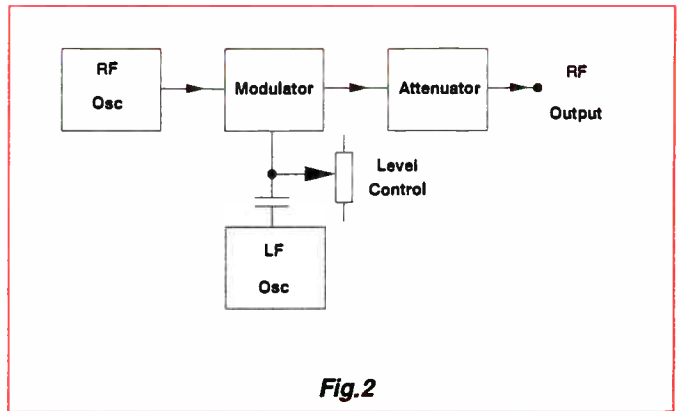

Fig.2
From the graph showing Speech Quality vs. Distance from Base Station (Fig.2), it can be seen that for an analog AMPS system the quality of the received speech begins to decline fairly quickly with increasing distance from the base station.
**Fig.2: (above):** With the analog AMPS system, the quality of the received speech begins to deteriorate fairly quickly with increasing distance from the base station. In contrast, the digital GSM system remains constant much longer.
The simplified schematic diagram in Fig.2 shows how amplitude modulation is obtained, by applying the modulation drive signal to a point which also controls the RF level. No attempt is made in this simple design to control the